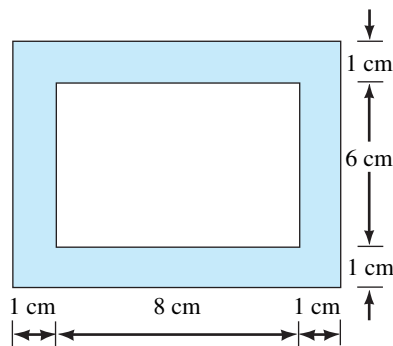

FIGURE 12–23
6. For the circuit of Figure 12–23, the length ℓ to use in Ampere's law is (0.36 m, 0.32 m, 0.28 m). Why?